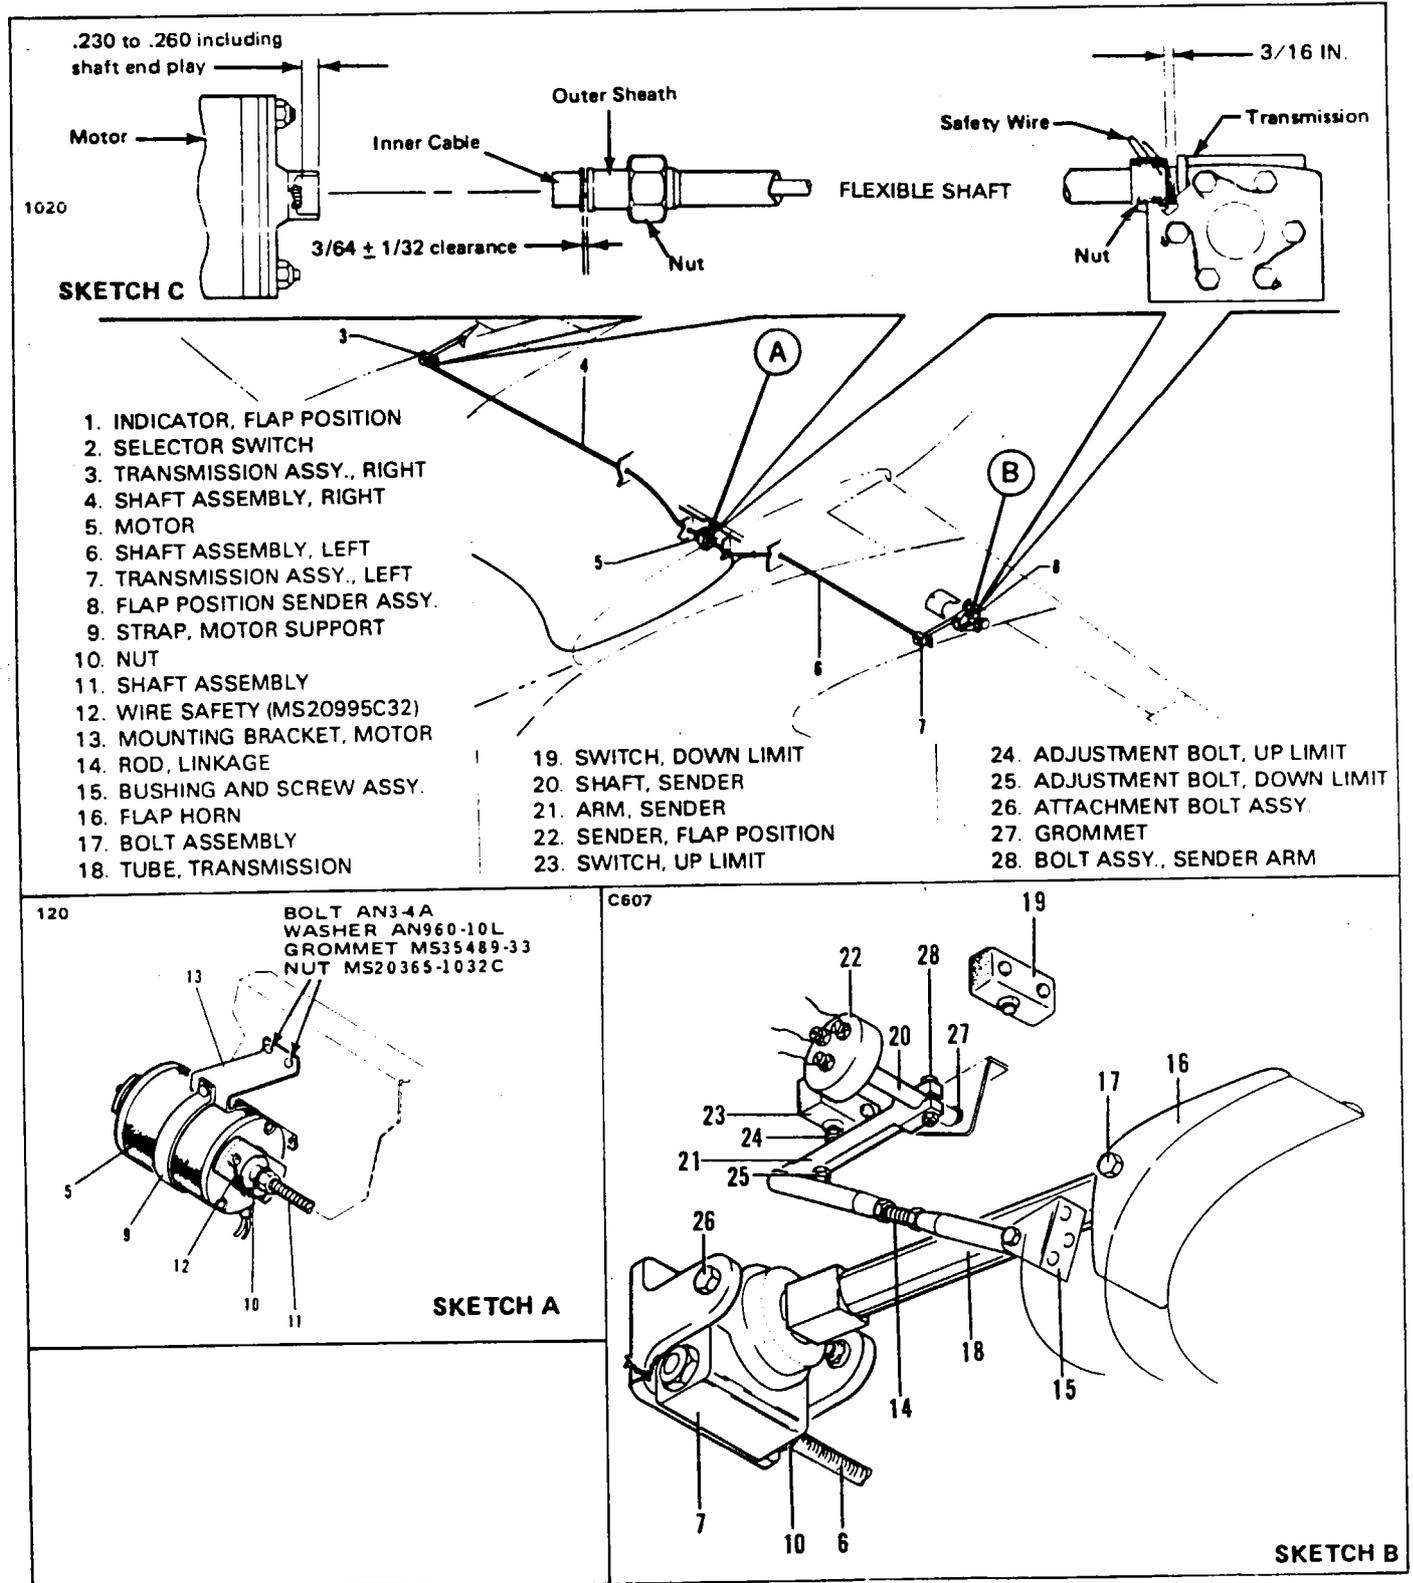

Figure 27-24. Flap Installation
### DESCRIPTIONS AND OPERATION. (Refer to Figures 27-24 and 27-25.)
#### **REMOVAL OF FLAP ACTUATOR MOTOR. (Refer to Figure 27-24.)**
**INSTALLATION OF FLAP ACTUATOR MOTOR.** (Refer to Figure 27-24.)
**FLEXIBLE ACTUATOR SHAFT.** (Refer to Figure 27-24.)
**REMOVAL OF FLEXIBLE ACTUATOR SHAFT.** (Refer to Figure 27-24.)
**INSTALLATION OF FLEXIBLE ACTUATOR SHAFT.** (Refer to Figure 27-24.)